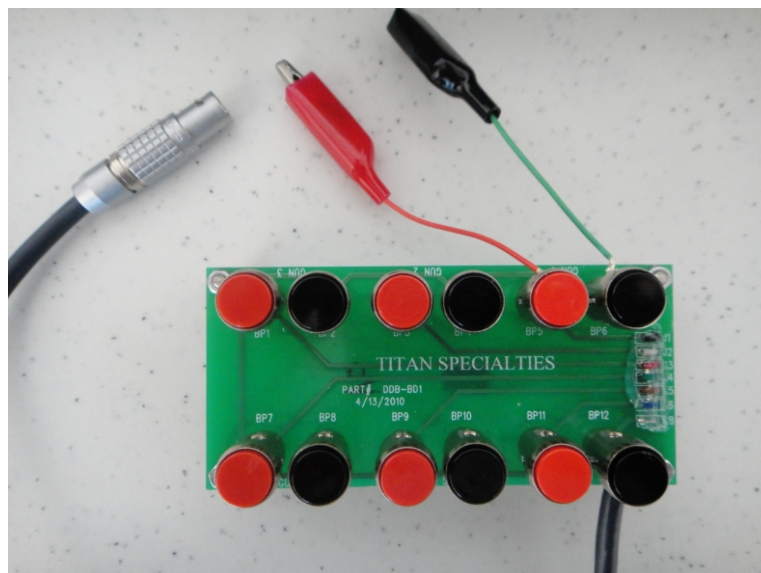

Figure 4
- **Wireline Switch Simulator Panel External Test Block** – Shown in Figure 4 is a connector block with a cable that plugs into the Perf Switch Simulator, Deto I/O interface. This assembly provides the user a means to connect resistors to each of the 6 Perf Switches inside of the Perf Switch Simulator for the purpose of simulating a detonator firing. This concept can be used for demonstration, training and troubleshooting wireline problems on a job site.